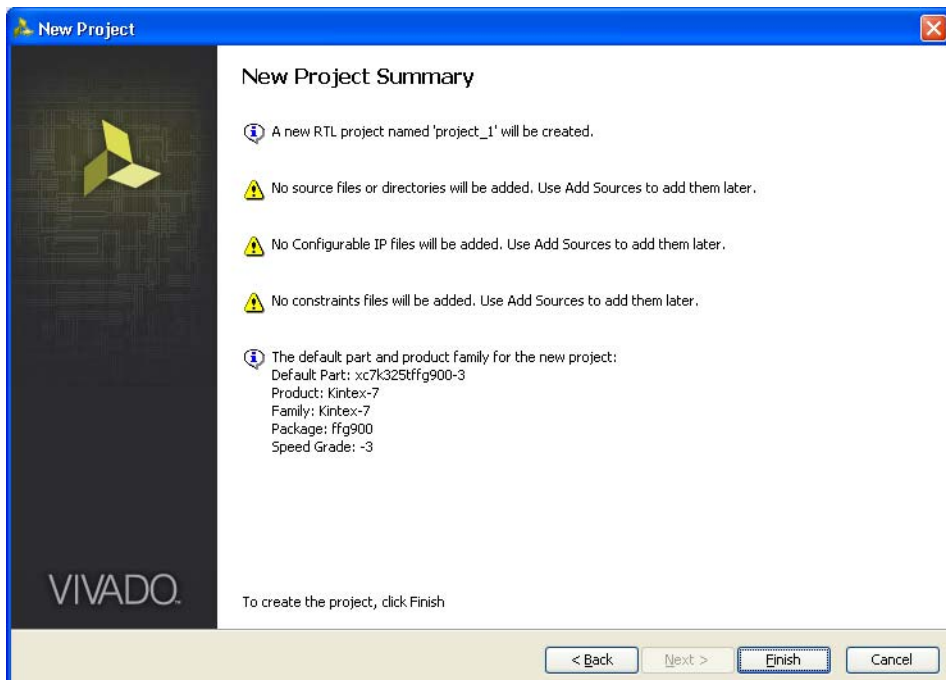

Figure 4-11: New Project Summary
- Click **Next** to open the **New Project Summary** page (Figure 4-11). This includes the summary of selected project details.